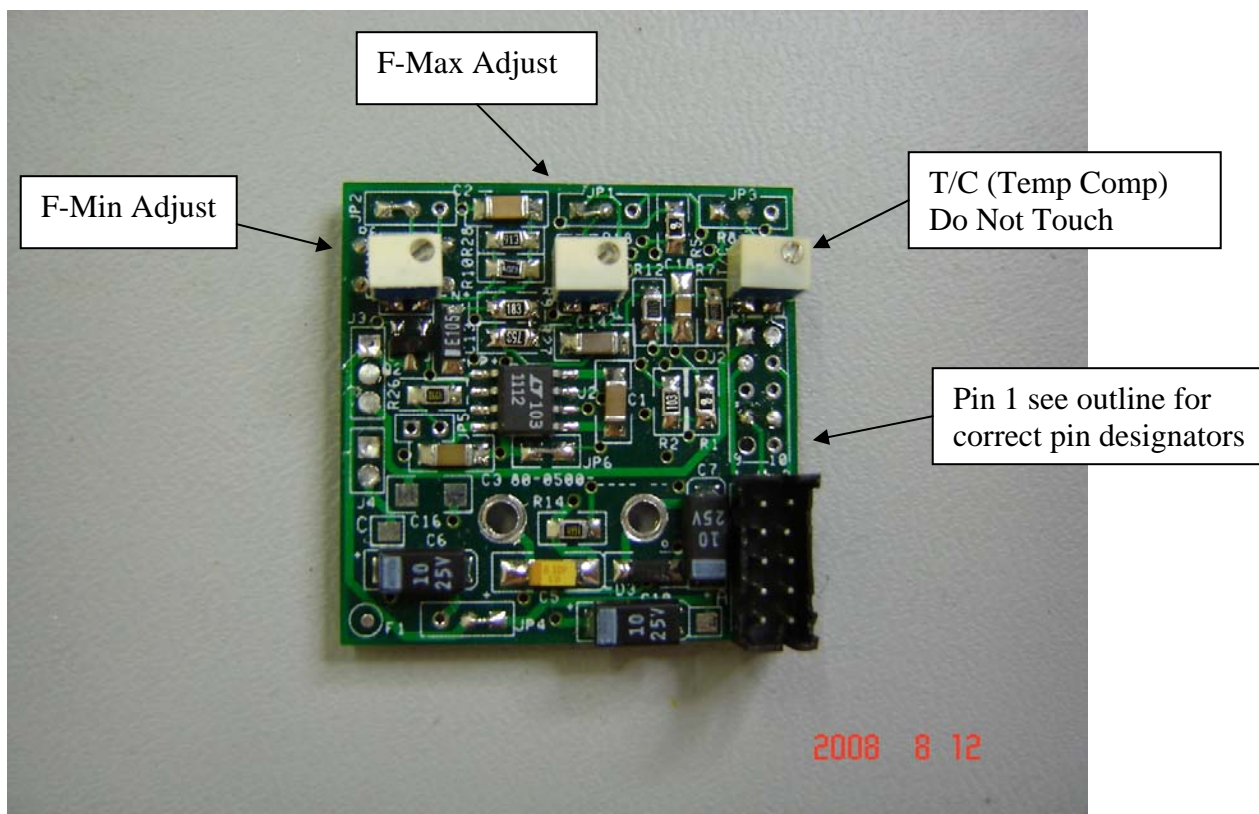

Figure 1
: Adjustments made via trim pots on the single single PC Board. Driver uses a 10 pin dual row 2mm DC connector, Figure 1.
- E) See the appropriate figure for your driver type and find the two adjustment locations. NOTE ! There is a third adjustment pot which sets the temperature compensation of the driver circuit. Figure 1, 3 and 5 indicate T/C. This pot should never be adjusted by the customer or user at any time. Failure to comply will void the warranty on the YIG device and driver.